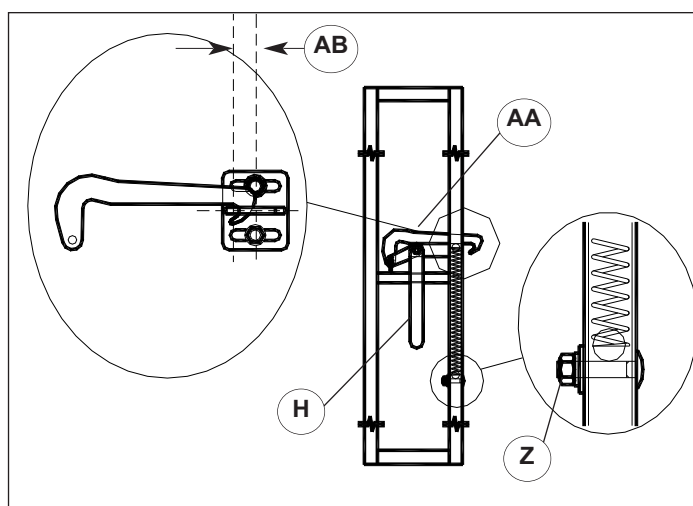

Figure 4.6
1. If the hook does not pop free of the catch when released, it will need to be adjusted upward. Push down on hook so it is level. (AA) If the hook does not feed automatically into the catch it will need to be adjusted downward, **Figures 4.6 & 4.7**.
4. If hook does not pop free of catch when released, loosen 5/16” [8] nut using a 1/2” [13] wrench, raise carriage bolt (P) up and tighten, if hook does not